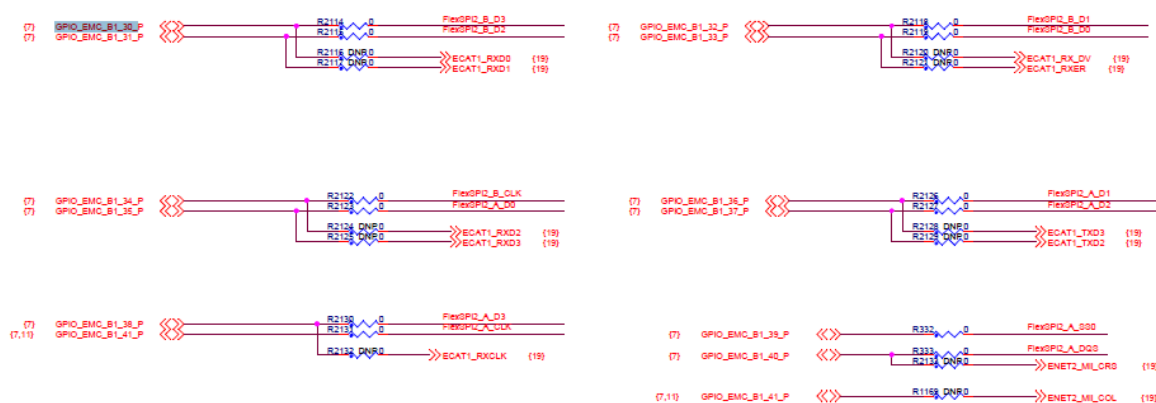

Figure 25. Step 3
4. Use signal multiplexing as shown in Figure 25.